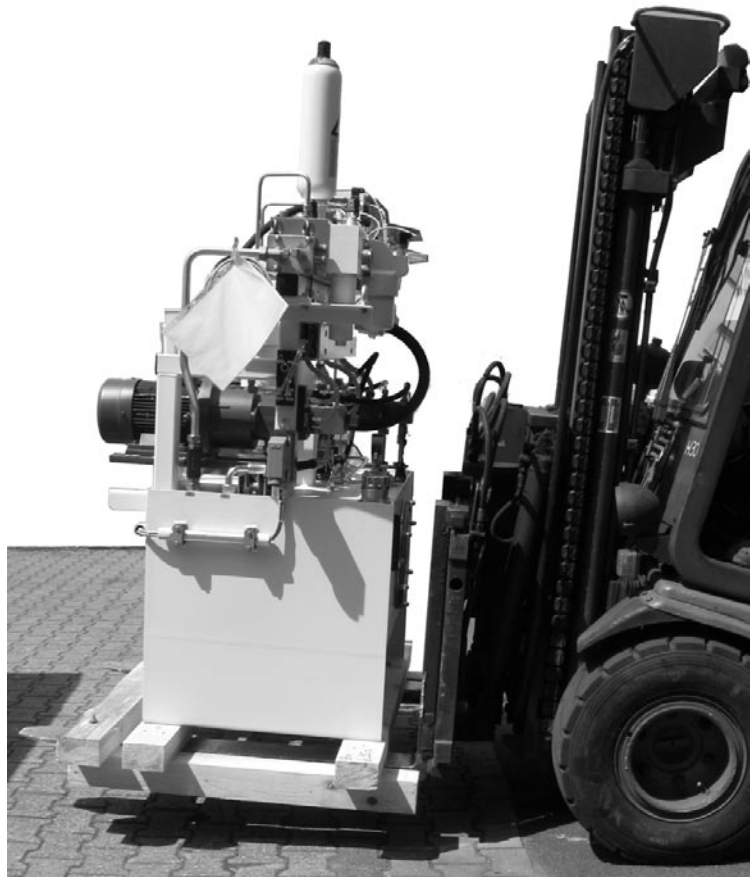

Fig. 4: Transport using forklifts
- ▶ Ensure that the built-on components of the hydraulic power unit do not come into contact with the attachment device or lifting tools during transport (see Fig. 4).